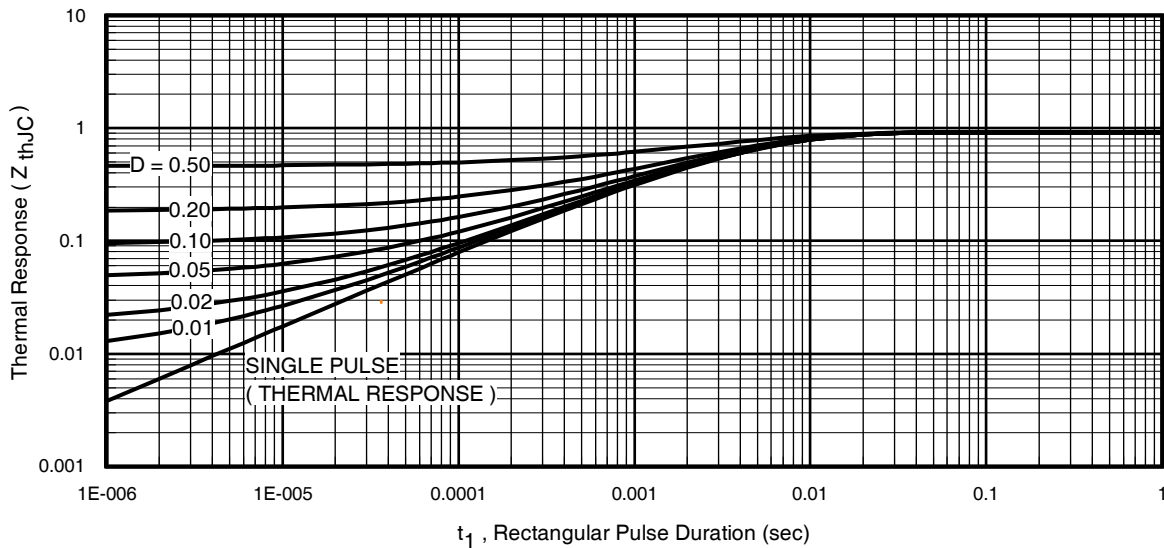
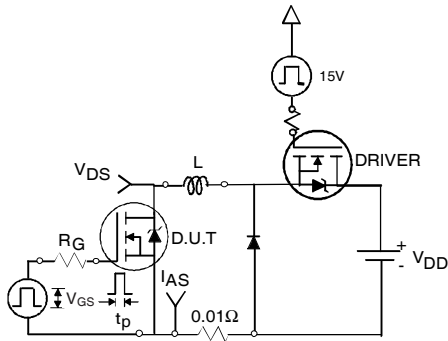

Fig 11. Maximum Effective Transient Thermal Impedance, Junction-to-Case
Fig 12a. Unclamped Inductive Test Circuit
- ① Repetitive rating; pulse width limited by max. junction temperature. (See fig. 11).
- ② Limited by T_{Jmax} , starting $T_J = 25^\circ\text{C}$, $L = 0.27\text{mH}$, $R_G = 25\Omega$, $I_{AS} = 35A$, $V_{GS} = 10V$. Part not recommended for use above this value.
- ③ $I_{SD} \leq 35A$, $di/dt \leq 380A/\mu s$, $V_{DD} \leq V_{(BR)DSS}$, $T_J \leq 175^\circ\text{C}$.
- ④ Pulse width $\leq 1.0\text{ms}$; duty cycle $\leq 2\%$.
- ⑤ $C_{oss \text{ eff.}}$ is a fixed capacitance that gives the same charging time as C_{oss} while V_{DS} is rising from 0 to 80% V_{DSS} .
- ⑥ Limited by T_{Jmax} , see Fig.12a, 12b, 15, 16 for typical repetitive avalanche performance.
- ⑦ This value determined from sample failure population. 100% tested to this value in production.
- ⑧ This is applied to D²Pak, when mounted on 1" square PCB (FR-4 or G-10 Material). For recommended footprint and soldering techniques refer to application note #AN-994.
3. Equation below based on circuit and waveforms shown in Figures 12a, 12b.
$Z_{thJC}(D, t_{av})$ = Transient thermal resistance, see figure 11)